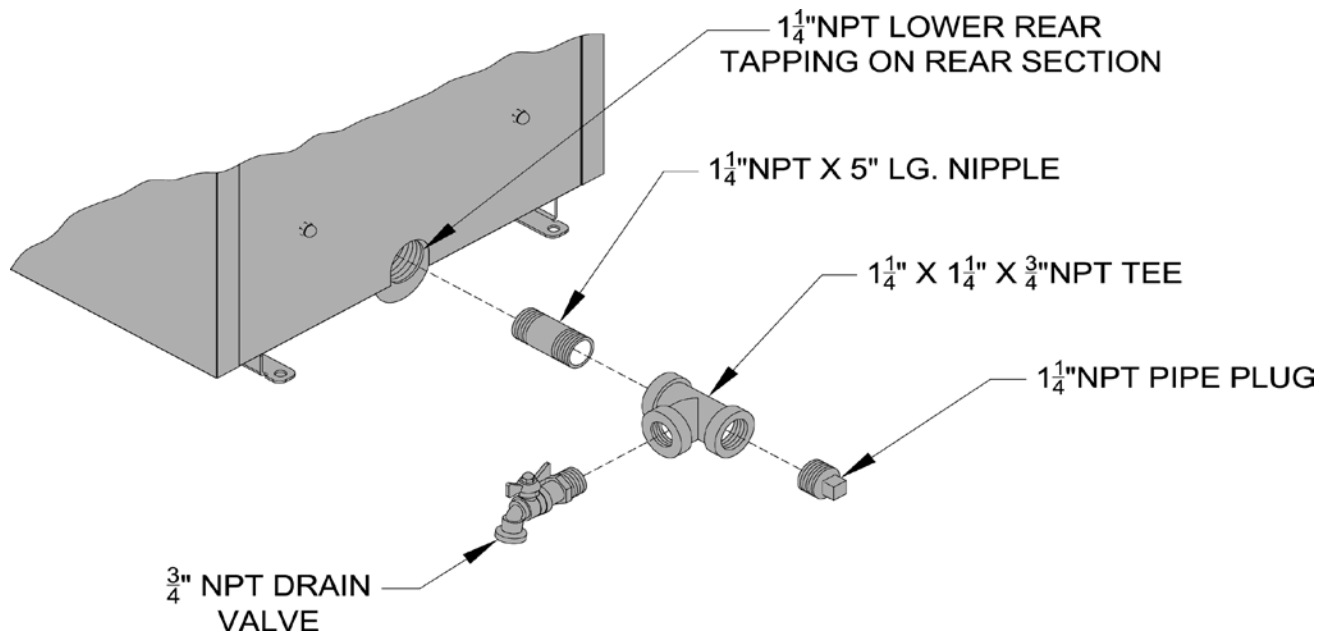

Figure 6: Piping Arrangement for Drain Valve and Indirect Water Heating Return
2. Install drain valve, see Figure 6.